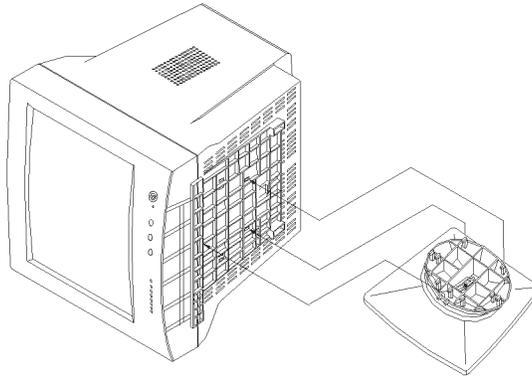

Figure 1 Installing and Removing the Swivel Base
- Carefully turn the monitor on its side or upside down. (see figure 1)